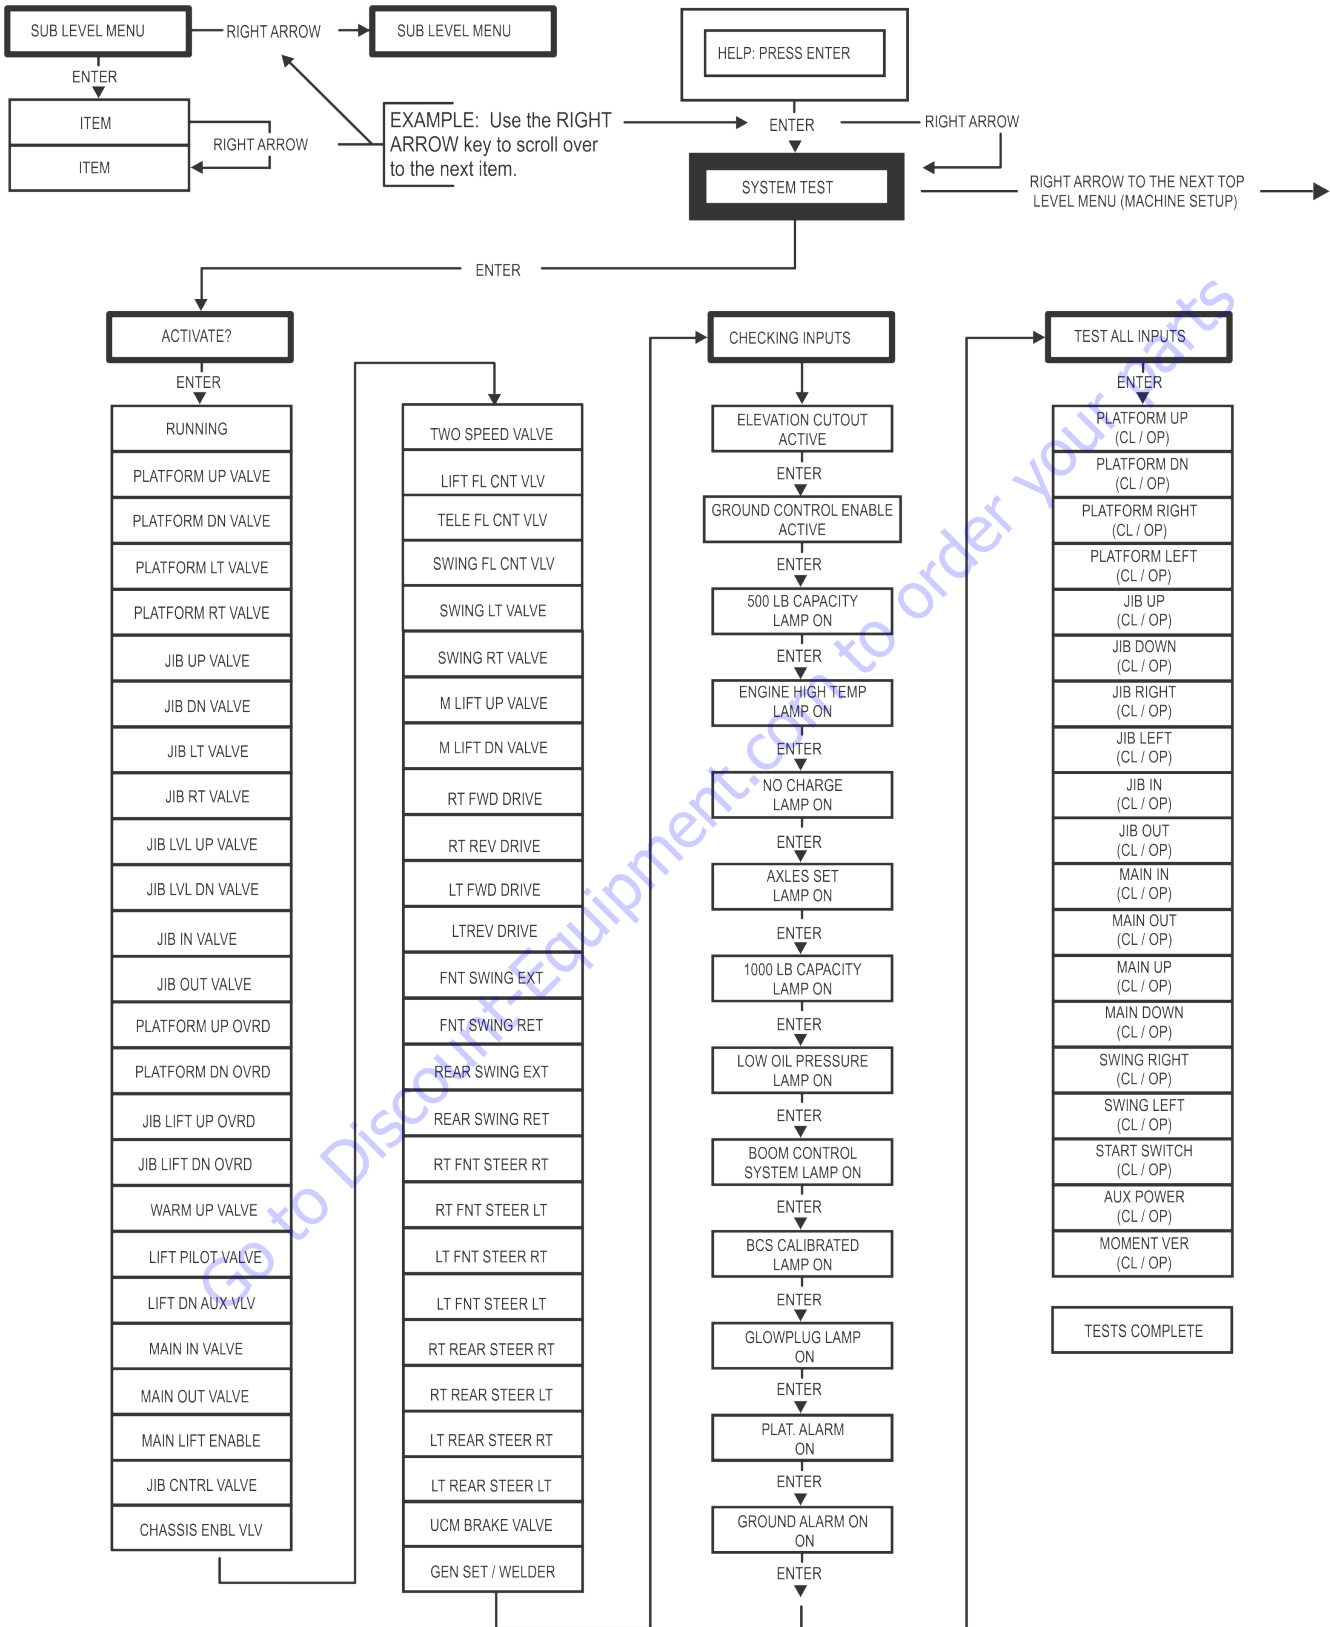

Figure 6-30. System Test Flow Chart - Ground Station Tests
6. Follow the flow path in Figure 6-30., System Test Flow Chart - Ground Station Tests and go through the component tests. Hit the ESC key during any part of the test to return to the main menu without completing all tests or wait until all tests are complete. During the TEST ALL INPUTS sequence, the analyzer allows control switches to be operated and shows if they are closed (CL) or open (OP).